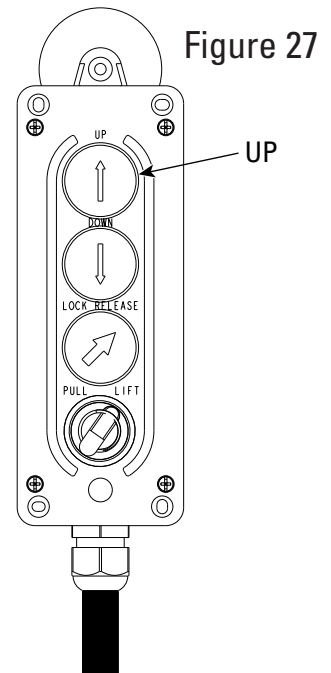

Figure 27
4. Depress and hold the "UP" button on pendant to raise machine until it is level and both safety lock arms are released, Figure 27.